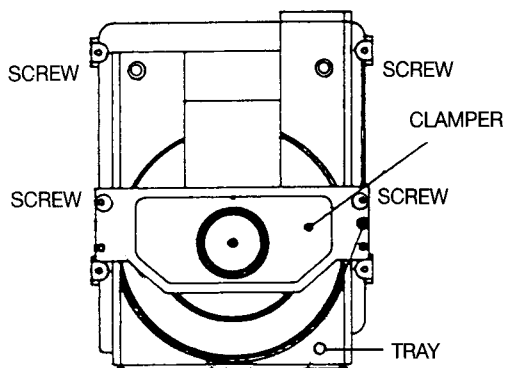

Fig. 3
- 1) Remove the four retaining screws for clamper and tray. (fig. 3)